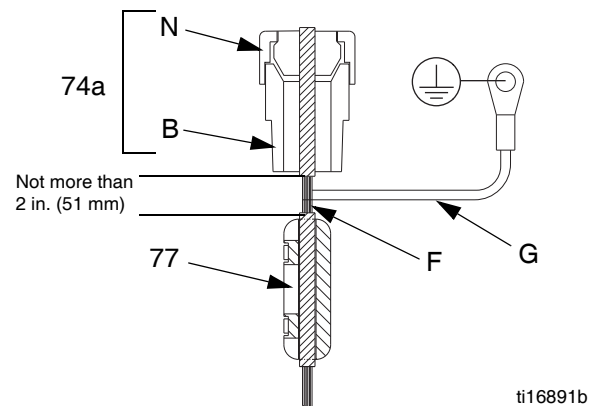

FIG. 13. IS Circuit Field Wire
19. Thread the IS field wire and shield through the conductive strain relief (74a) and connect it to J2 and J3. See FIG. 13 and the **Electrical Diagrams**, page 10.
20. See FIG. 13. Tighten the nut (N) on the conductive strain relief (74a) securely. Install the ferrite (77) on the field wire (F), not more than 2 in. (51 mm) from the bottom of the conductive strain relief (74a). Install ground wire to grounding screw in junction box.
21. Install the new gasket (33), the cover (34), and six screws (12).
22. Remove the old label (L) from the circuit board cover (34). Attach the new label (L) to the cover.
23. Calibrate the transducer, entering the calibration information found on the new label (L):
24. Reinstall the cover (32) with two screws (12).